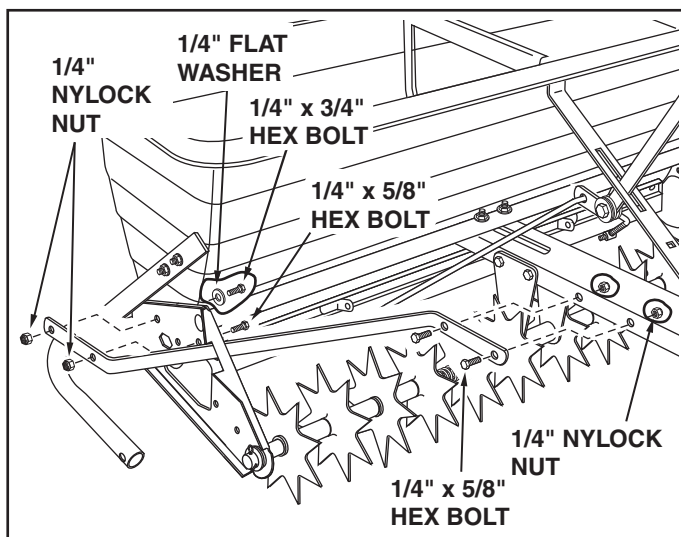

FIGURE 23
34. Insert a tongue brace through the slot in the end plate. Fasten the front hole of the tongue brace to the end plate using a 1/4" x 5/8" hex bolt and 1/4" nylock nut. For the rear hole use a 1/4" x 3/4" hex bolt, 1/4" flat washer and 1/4" nylock nut, with the bolt and washer assembled from inside the poly hopper. **Do not tighten yet.** See figure 23.
35. Fasten the other end of the tongue brace to the side of the tongue using two 1/4" x 5/8" hex bolts and 1/4" nylock nuts. **Do not tighten yet.** See figure 23.